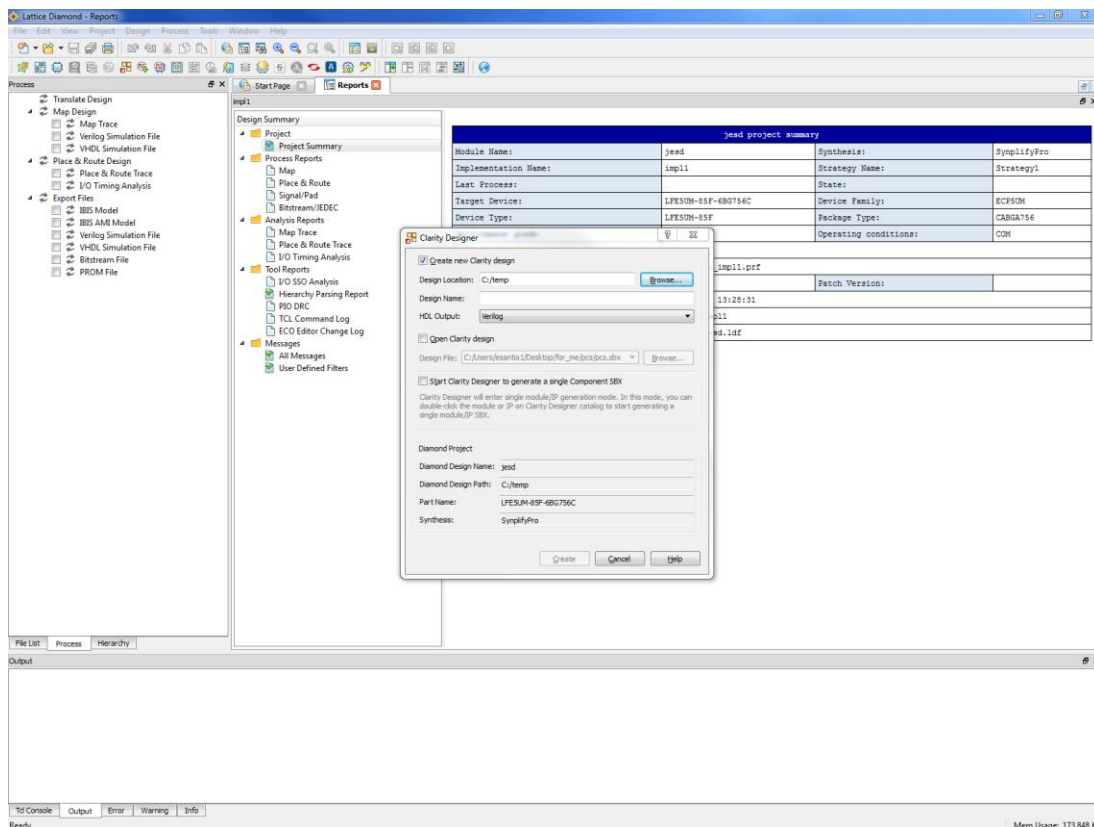

Figure 4.2. Starting Clarity Designer from Diamond Design Environment
3. Select and/or fill out the following items as shown in **Figure 4.2**:
The IPexpress can be started from the Lattice Diamond accessories in start menu of Windows. It can be started from the command line in Linux. The initial window of IP Express is shown in Figure 4.2. To generate a specific IP core configuration, specify: